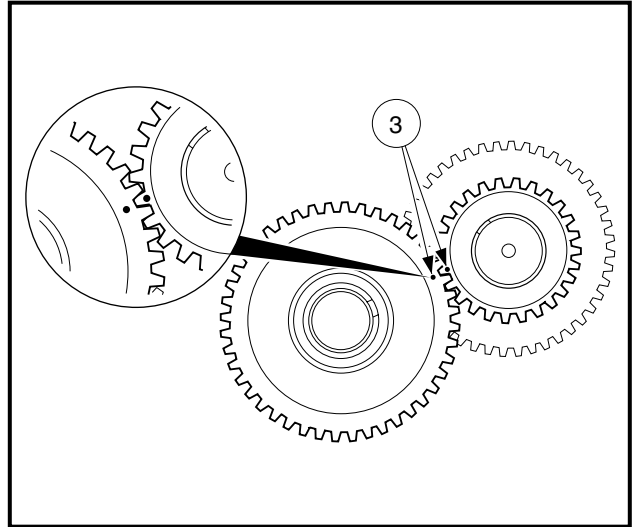

Figure 13-103 Align Timing Marks between Camshaft and Crankshaft
3. Align the timing marks (3) (Figure 13-103, Page 13-47). **See following NOTE.**